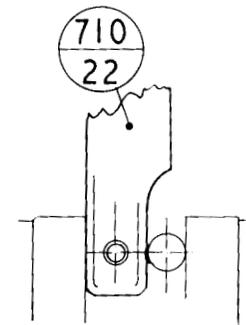

FIG. 9
5. Insert the small end of the End Pin (710/20) in the hole, and tap in until the Sear-rod is exactly equidistant between the two ends of the End-pin (Fig. 9). Note - When the Sear-rod is held horizontally with the "Hook" upwards, the groove in the end-pin should face downwards.